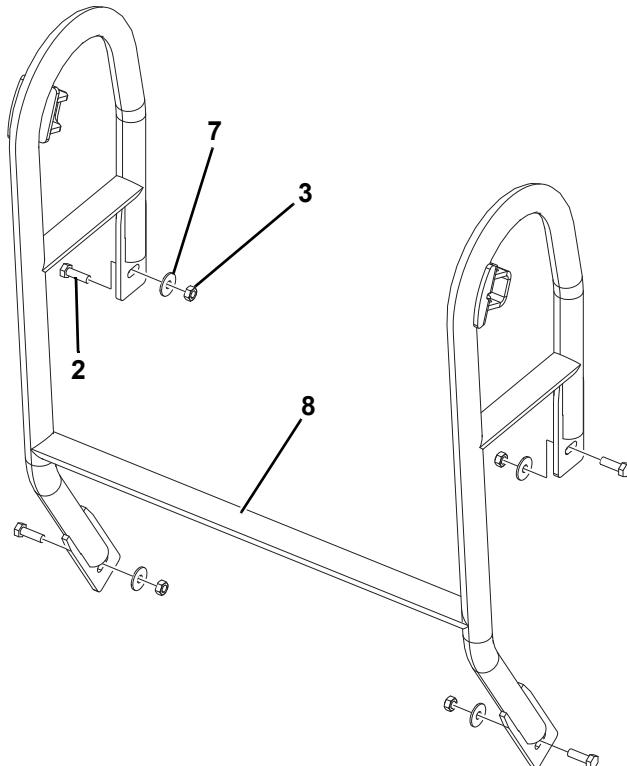

Figure 4-41.
1. Install the SkyGuard Support Bracket (**8**) onto the welded mounts on platform rails. Secure the support bracket using four Bolts (**2**), relevant Washers (**7**) and Nuts (**3**). See *Figure 4-41*.